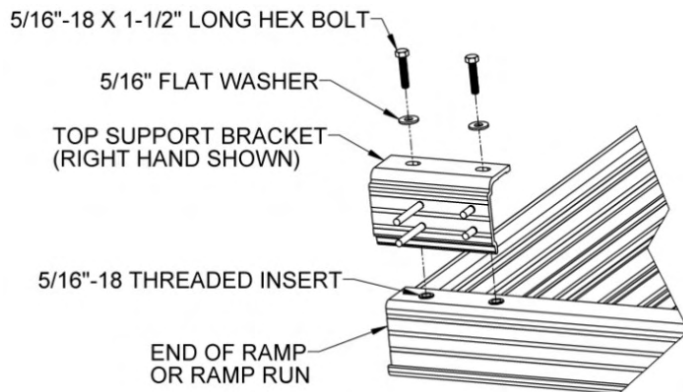

FIG. 7.1
- 7.1.1. Attach top support brackets with two 5/16"-18 x 1-1/2" hex bolts and each 5/16" flat washers (FIG. 7.1).